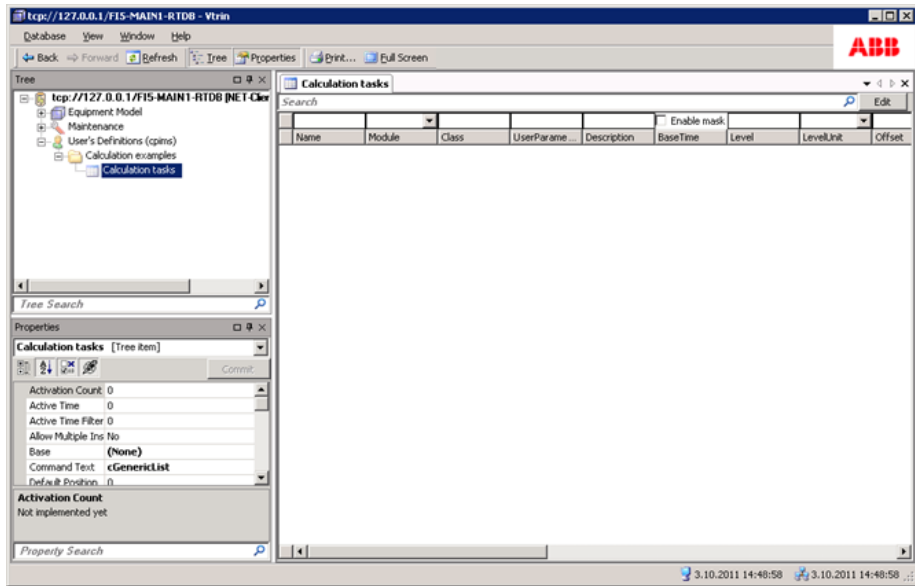

Figure 81. Calculation tasks
2. Click **OK** and press **Ctrl+S** to save the settings in the list view. This results in the displaying the no calculation tasks as shown in Figure 81.